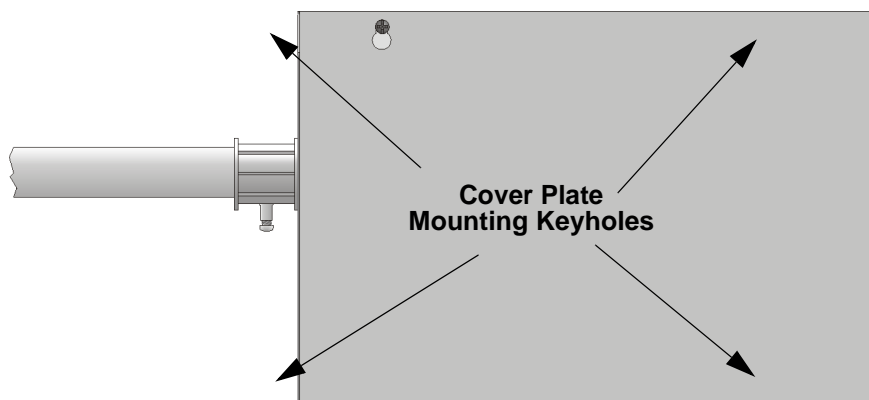

Figure 4.7 Cover Plate Mounting Keyholes and Cover Mounting Screws Alignment
6. Align the cover plate mounting keyhole over the cover mounting screws. See Figure 4.7.
7. Slide the cover into place and tighten the cover mounting screws. See Figure 4.7.